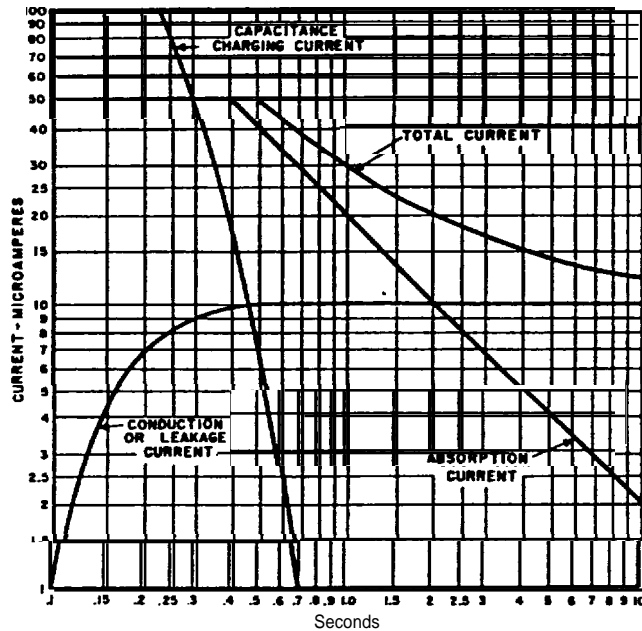

Figure 14-2. Curves showing components of measured current during insulation testing.
insulation, providing a low resistance path for leakage current. Sometimes the drop in insulation resistance is sudden, as when equipment is flooded. Usually, however, it drops gradually, giving plenty of warning, if checked periodically. Such checks permit planned reconditioning before service failure. If there are no checks, a motor with poor insulation, for example, may not only be dangerous to touch when voltage is applied, but also be subject to bum out. Current through and along insulation is made up of three components (fig 14-2): capacitance charging current; absorption current; and conduction or leakage current. The total current is the sum of the three components and it is this current in terms of megohms at a particular voltage that can be measured directly by a megohmmeter. Note that the charging current disappears relatively rapidly, as the equipment under test becomes "charged". Larger units with more capacitance will take longer to be charged. This current also is the stored energy initially discharged after your test, by short-circuiting and grounding the insulation. You can see further that the absorption current decreases at a relatively slow rate, depending upon the exact nature of the insulation. This stored energy, too, must be released at the end of a test, and requires a longer time than the capacitance charging current-about four times as long as the voltage was applied. With good insulation, the conduction or leakage current should build up to a steady value that is constant for the applied voltage. Any increase of leakage current with time is a warning of trouble. With a background now of how time affects the meaning of instrument readings, let's consider two common test methods: (1) short-time of spot reading and (2) time-resistance tests.